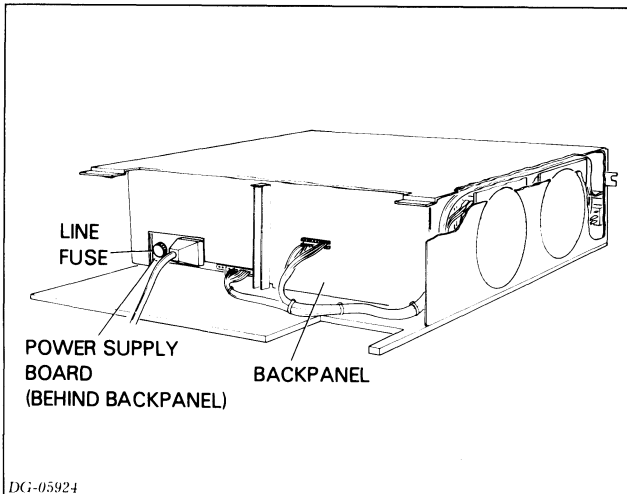

Figure 6.10 Line fuse for 5-slot power supply
9. Check the 7 Amp ac line fuse which screws into the left rear corner of the power supply board and extends through a cutout in the backpanel (see Figure 6.10).